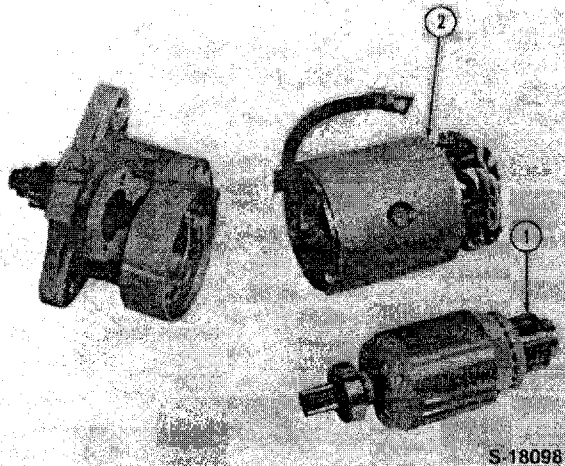

Figure 39
5. Remove the armature and frame, Figure 39.